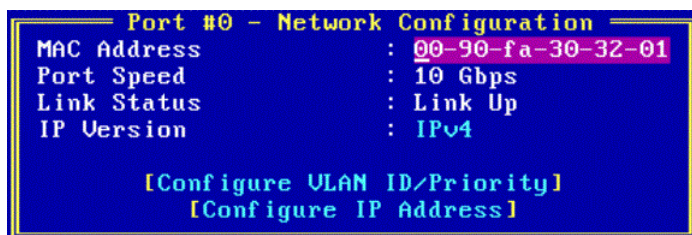

Figure 8-8 Network Configuration Screen
1. From the Network Configuration screen (Figure 8-8), select **IP Version** and press **<Enter>**. A drop-down menu appears.
1. On the Network Configuration screen (Figure 8-8), select **Configure VLAN ID/Priority** and press **<Enter>**. The Configure VLAN ID/Priority screen appears.
1. On the Network Configuration screen (Figure 8-8), ensure that the IP Version is set to IPv4.
1. On the Network Configuration screen (Figure 8-8), ensure that the IP Version is set to IPv6.